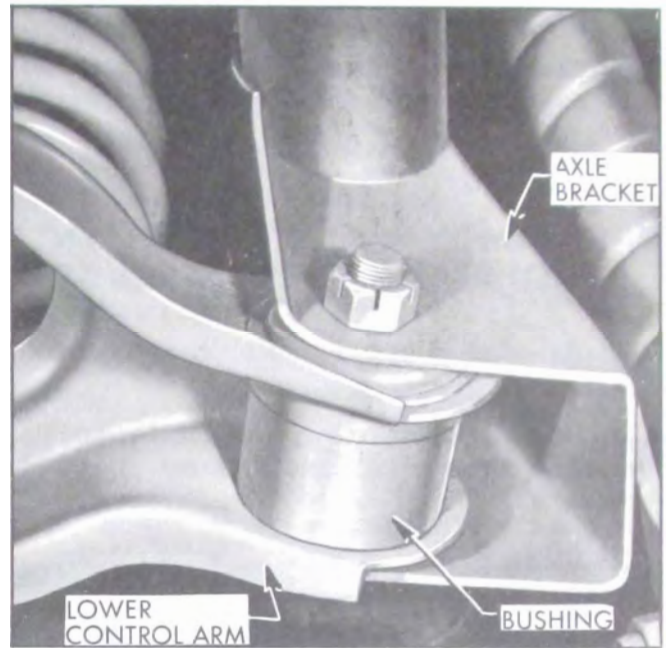

Figure 7-24—Rear Lower Control Arm
2. Disconnect lower control arm at bracket on axle housing. See Figure 7-24. Disconnect front bracket from underbody and remove lower control arm and bracket. Be certain to note number of shims between underbody and bracket.